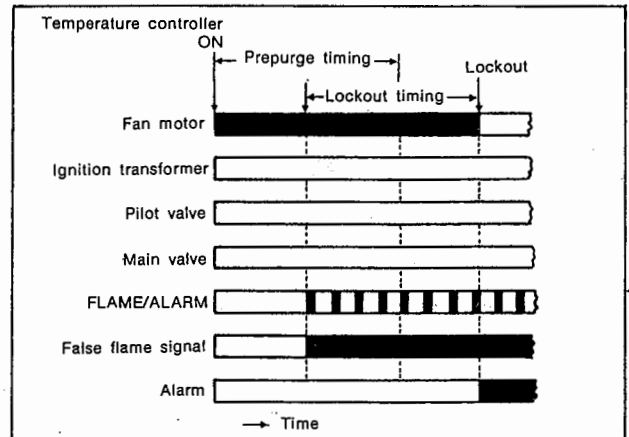

Fig. 13 (3)
- (4) When a false flame signal occurs during prepurge timing, and it goes out during prepurge timing; (See Fig. 13 (4))